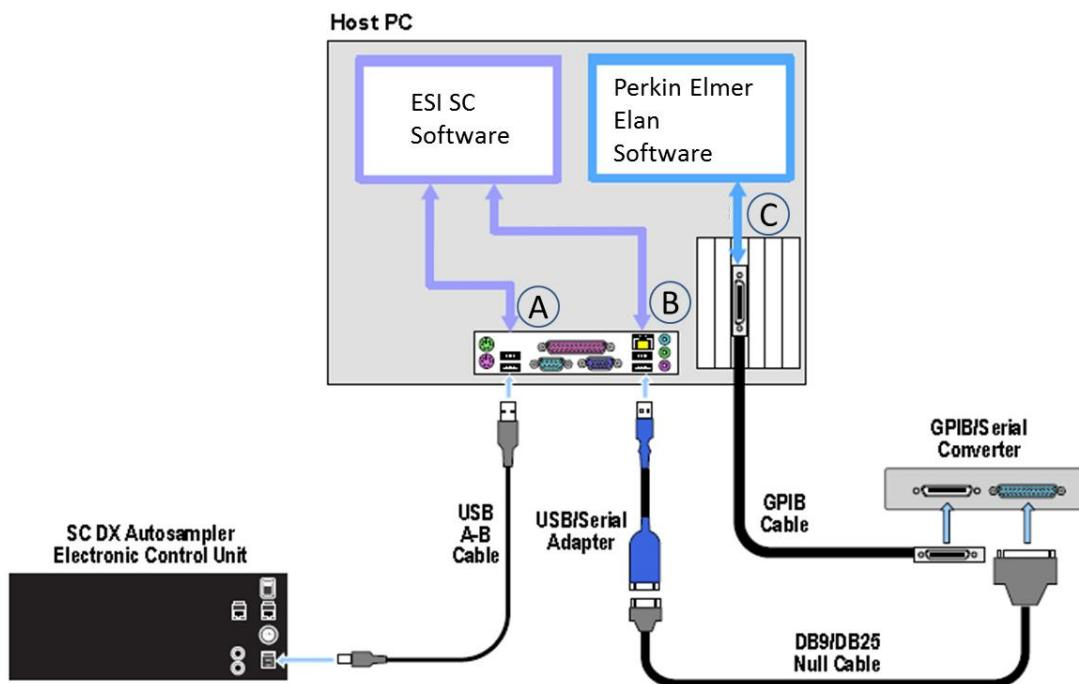

Figure 21: Connections for SC with Elan and using GPIB interface.
- 2) Connect the ICS 4894 to the computer using the provided 25-pin to 9-pin Null Modem Cable. Connect the ICS 4894 to the GPIB communication card or bus. Connect to power source and turn on. It is recommended that USB-Serial RS-232 converters be used. The Hardware Wizard will automatically install the required drivers but they may also be found in the "\Program Files\ESI\ESI SC\SupportFiles" directory. See Figure 21.